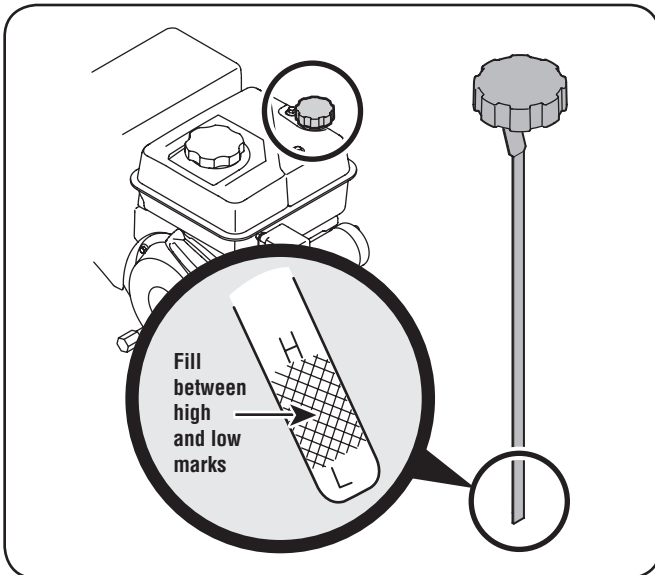

Figure 3-7
1. Remove the oil filler cap/dipstick and wipe the dipstick clean. See Fig. 3-7.
3. Remove the oil filler cap/dipstick. If the level is low, slowly add oil until oil level registers between high (H) and low (L), Fig. 3-7. Refer to the Engine Maintenance section for correct oil viscosity and engine oil capacity.